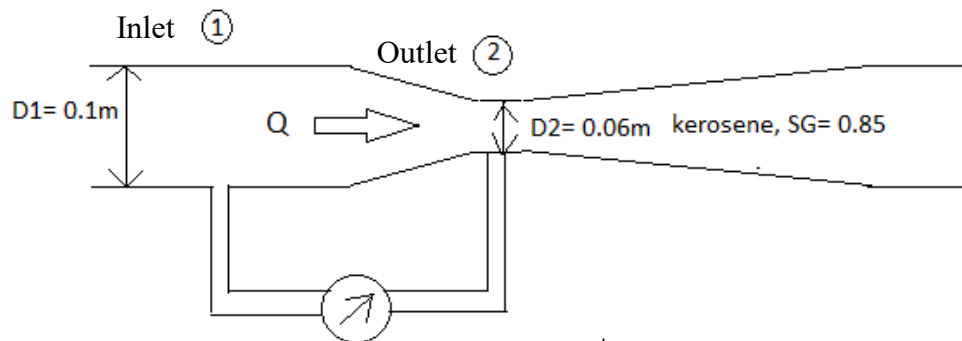

Figure 3 (a)
3. (a) Kerosene (specific gravity of 0.85) flows through the venturi meter as in Figure 3 (a) with flowrates between  $0.005 \text{ m}^3/\text{s}$  and  $0.05 \text{ m}^3/\text{s}$ . Calculate the range in pressure difference,  $P_1 - P_2$ , needed to measure these flowrates.